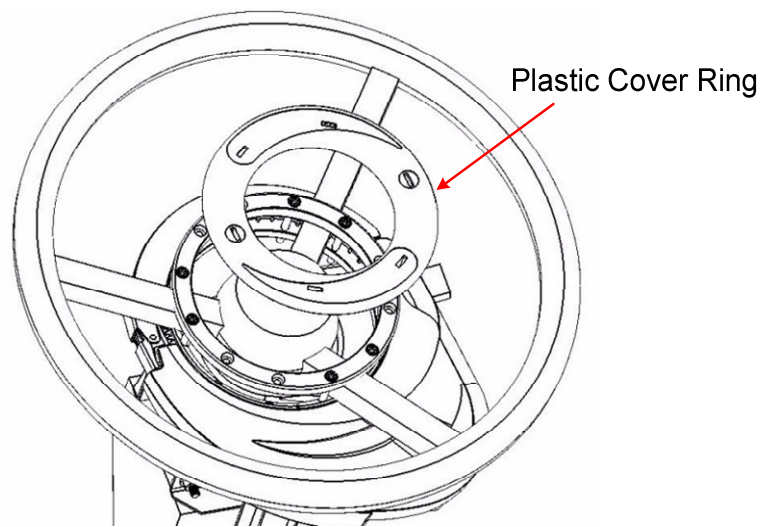

Figure 9 – Plastic Cover Ring
7. Snap the plastic cover over the top ring as shown in Figure 9.